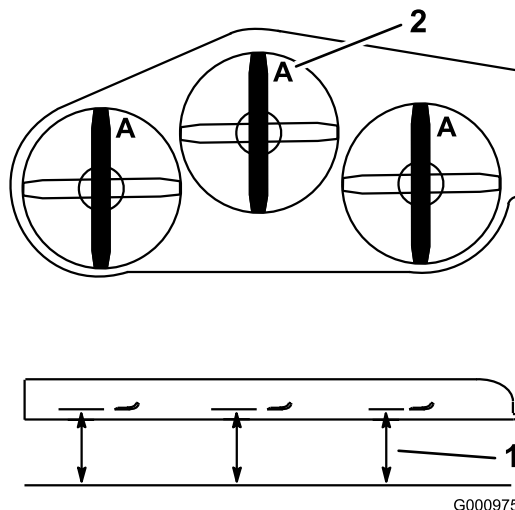

Figure 77
4. Measure from a level surface to the cutting edge, position A, of the blades (Figure 77).